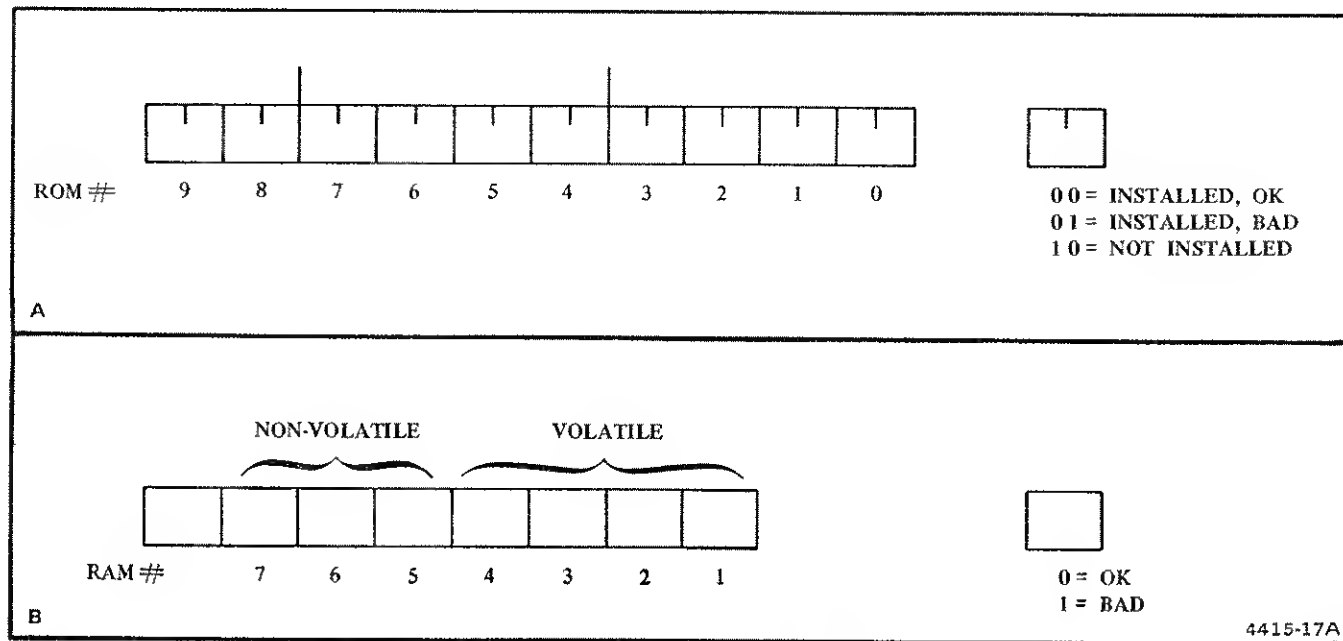

Figure 7-1. TEST Conversion Chart.
The TEST query response consists of two decimal numbers that indicate if a ROM or RAM IC was found to be defective. These numbers must be translated to their binary equivalents to determine the ROM and RAM locations, respectively. (If all ROM and RAM are good, the TEST query response will be ROM:0, RAM:0.) After the binary numbers are determined, put them into the conversion charts in Figure 7-1 to identify the IC number. Then, use Table 7-3 to find the correct circuit number and circuit board. The following example shows how to use the conversion charts and Table 7-3. If any ROM or RAM ICs are indicated to be bad, refer this information to qualified service personnel.
2. Insert this binary number in part A of Figure 7-1 (right-justified). Blocks 6 and 2 will be 0 1. This indicates that both ROM #6 and ROM #2 are bad; all other ROMs are good.
2. Insert this binary number in part B of Figure 7-1 (right-justified). Blocks 5 and 2 each contain a 1, which indicates that both RAMs 5 and 2 are bad; all other RAMs are good.